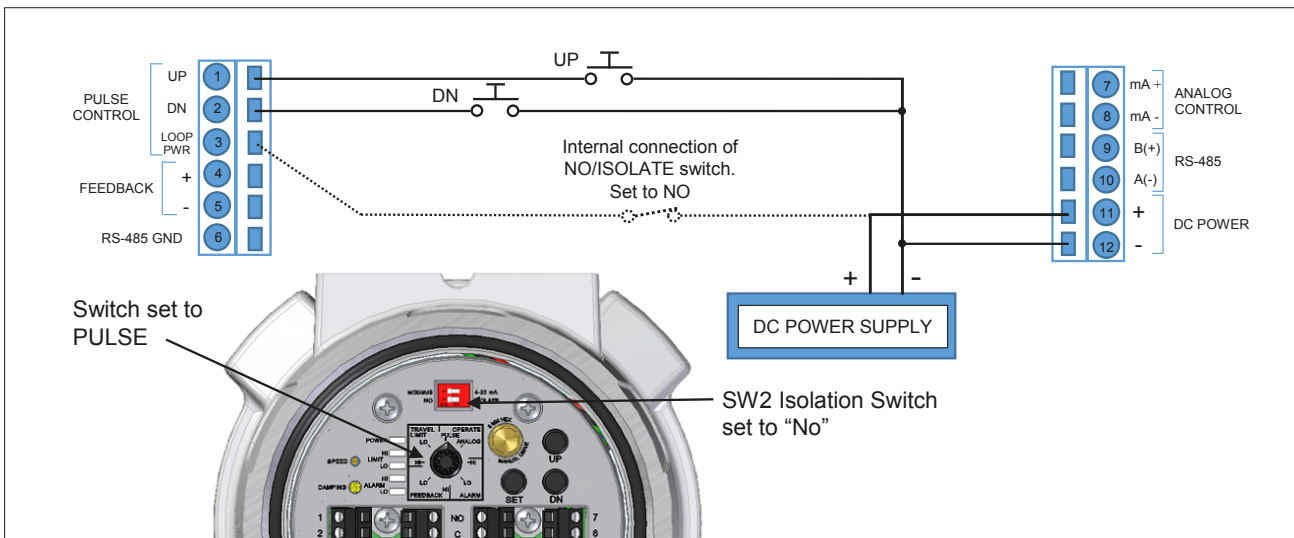

Figure 4 Non isolated pulse input control using common power supply for pulse control loop power
**SW2, NO:** The Pulse control input circuit is connected to the DC power supply providing power to the unit. No external control loop supply required. One side of the control switches must be connected to the – power supply connection. (See *Figure 4*).